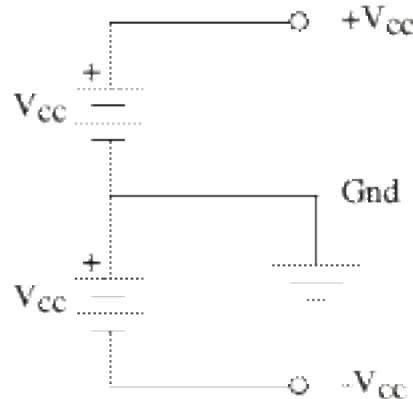

Figure 1: OpAmp and Potentiometer Power Supply Configuration
1. The schematic below (Figure 1) shows a standard $\pm V_{CC}$ configuration for an OP AMP bipolar power supply. The schematic symbols for batteries are used in Figure 1 to indicate that the power supplies need to be a constant DC voltage.**+V_{CC} and -V_{CC} are POWER SUPPLY CONNECTIONS for both the OpAmp and for the potentiometer.**
Note that the common output of this power supply is generally not internally connected to the ground (green output terminal). It is often necessary to connect the “common” output to the ground of the power supply with banana plug leads. This connection prevents power supply voltages from “floating” and causing inaccurate measurements. As shown in Figure 1, the connection labeled "Gnd" between the V_{CC} supplies is used as the circuit ground. This corresponds to the common (COM) binding post that you will also connect to the green grounding binding post on your power supply.